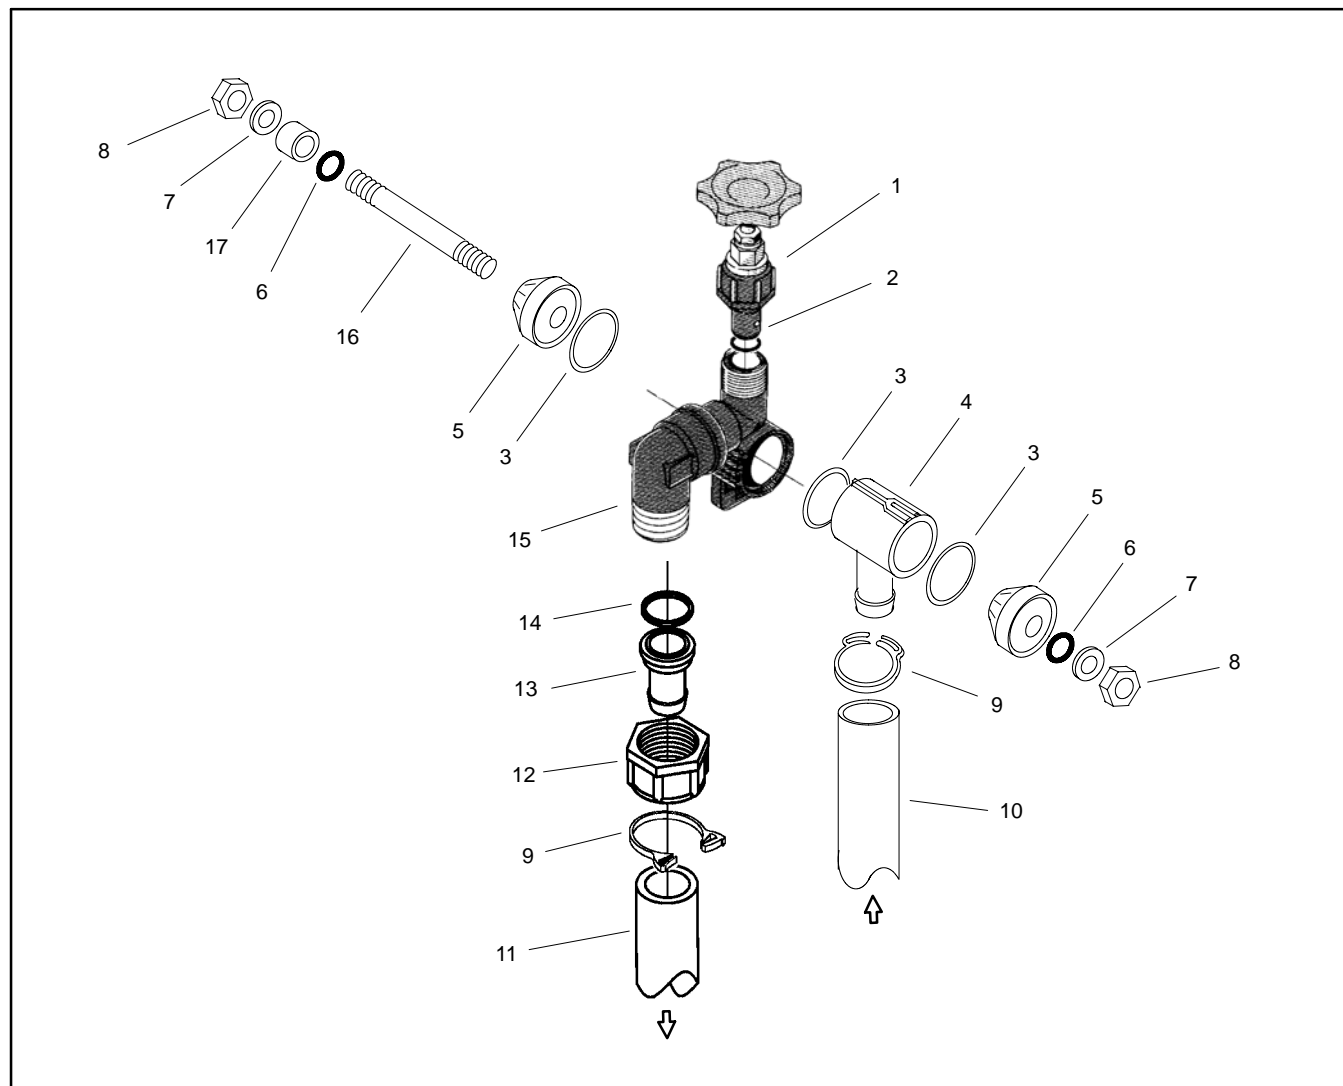

Figure 29
Disassembly (Fig. 29)
2. Disassemble pressure control valve using Figure 29 as a guide. Discard all removed o-rings.
Assembly (Fig. 29)
1. Reassemble pressure control valve using Figure 29 as a guide. Replace all removed o-rings.